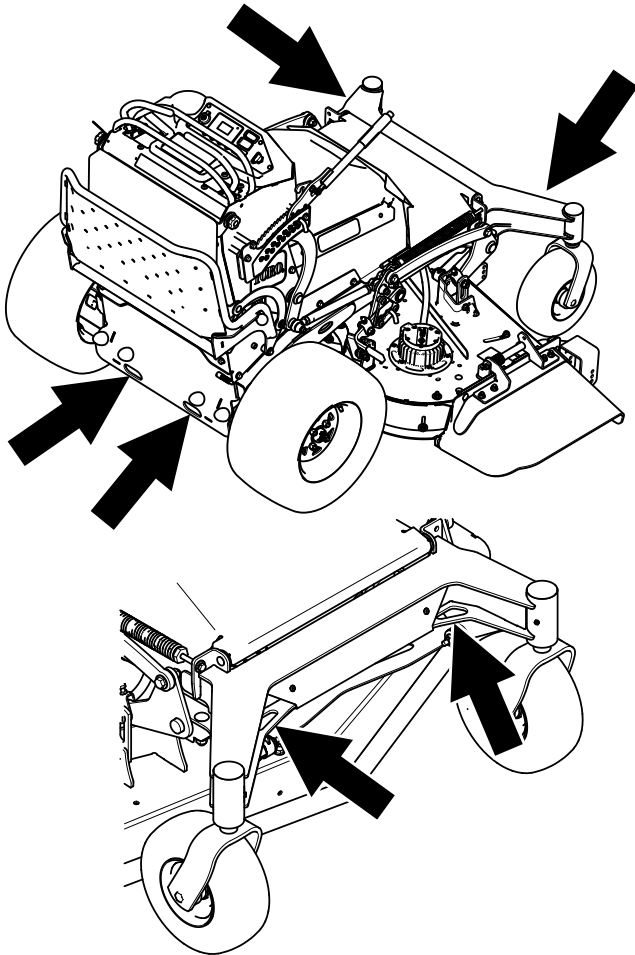

Figure 39
7. Tie down the machine near the front caster wheels, or front frame holes, and the rear bumper holes with straps, chains, cable, or ropes (Figure 39). Refer to local regulations for tie-down requirements.